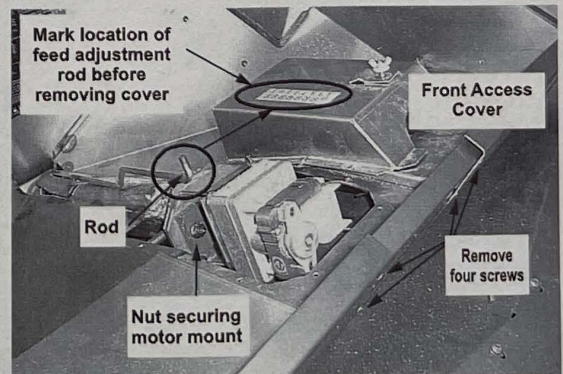

Figure 2
2. Either lift up and support the stove's top while you work or remove it from the stove by loosening the five (5) screws that attach the hinge to the hopper.
5. Using a 7/16" wrench remove the two nuts holding down the motor mount (Figure 2).